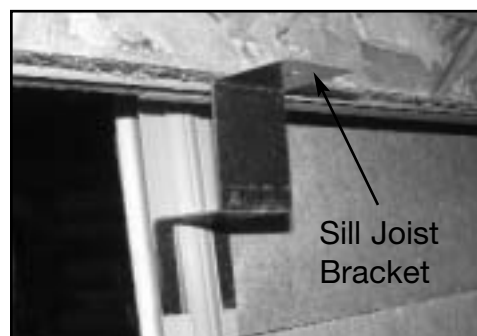

Fig. 5
**outside of the home:** The Sill Joist bracket can also be used on outside installations. It is attached underneath the home on the floor joist. There is a slot in the Sill bracket that allows it to slide up and down on the backside of the I-Beam. This bracket should only be used in conjunction with the concrete sill. (Fig. 5)